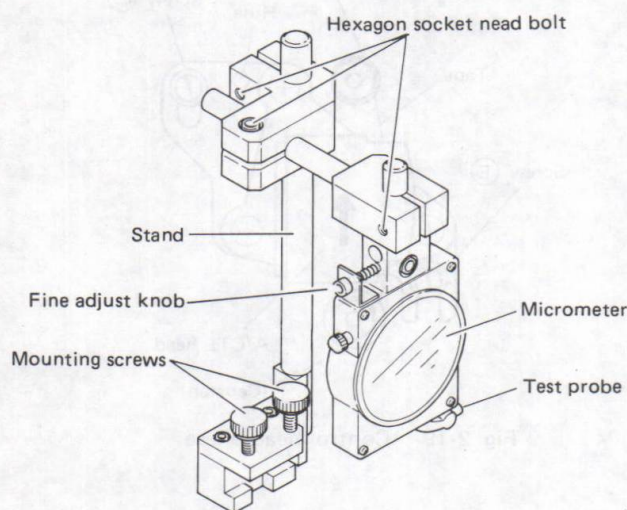

Fig. 2-8-1 Construction
3. Construction (See Fig. 2-8-1)